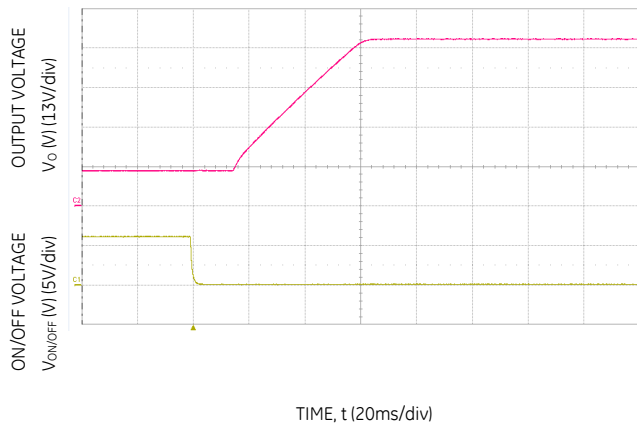

Figure 23. Typical Start-up Using On/Off Voltage ($I_o = I_{o,max}$).
3. Please note because of the specific design of the BOOST topology, the input voltage will present on the output when the input voltage is applied. This will occur even when the unit is in its "OFF" State. When the module is turned ON, the output voltage will start to rise from V_{in} level and not 0V. When turning off, the output will only drop back to V_{in} (If V_{in} is still present). Please refer to Figure 23 for typical start-up waveform using Remote ON/OFF. it shows the V_{in} level present prior to turning the module "ON"
When the module is turned ON, the output voltage will start to rise from Vin level and not 0V. When turning off, the output will only drop back to Vin (If Vin is still present). Please refer to Figure 23 for typical start-up waveform using Remote ON/OFF. it shows the Vin level present prior to turning the module "ON"